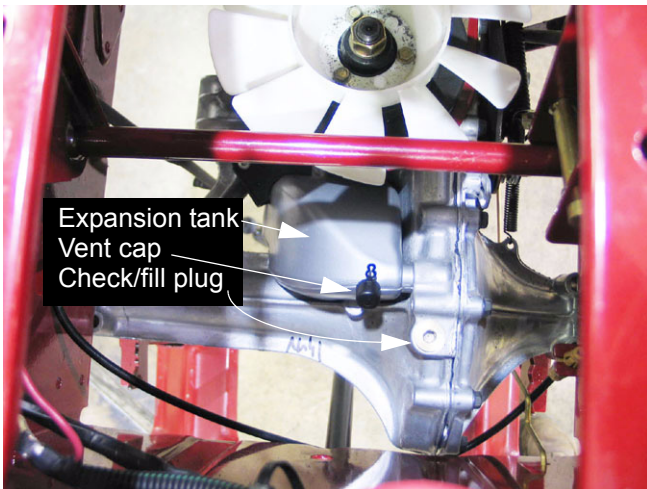

Figure 6.6
- 6.6. Customers and unfamiliar technicians may attempt to add or check the fluid level at the vent cap on the plastic over-flow reservoir. See Figure 6.6.